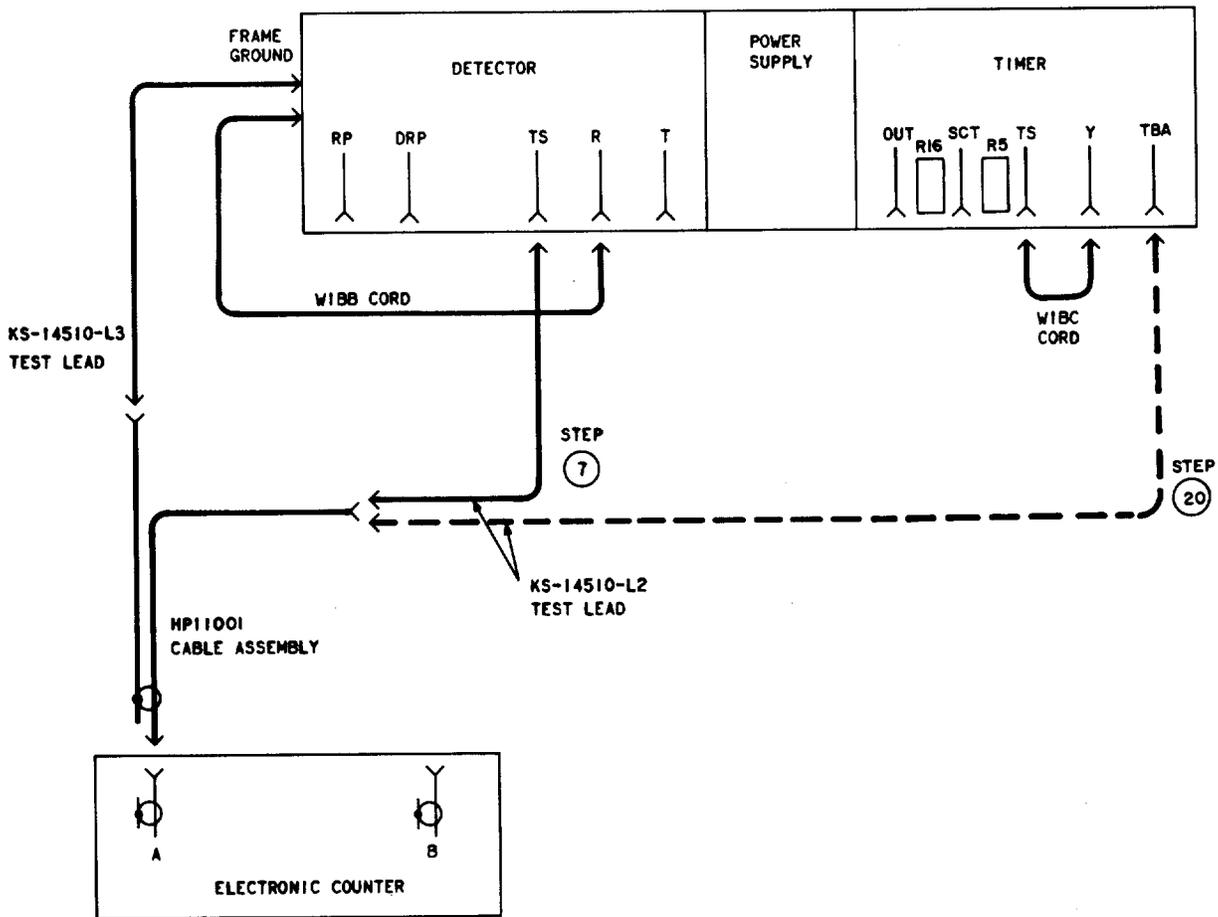

Fig. 1—Test A Connections
- (c) To change Fig. 1 and 2 to change test point, and show potentiometers as they appear on the equipment.
Using W1BC cord, connect the timer circuit pack Y jack to the TS jack (Fig. 1.)
A. Timer Test and Adjustment (Fig. 1)